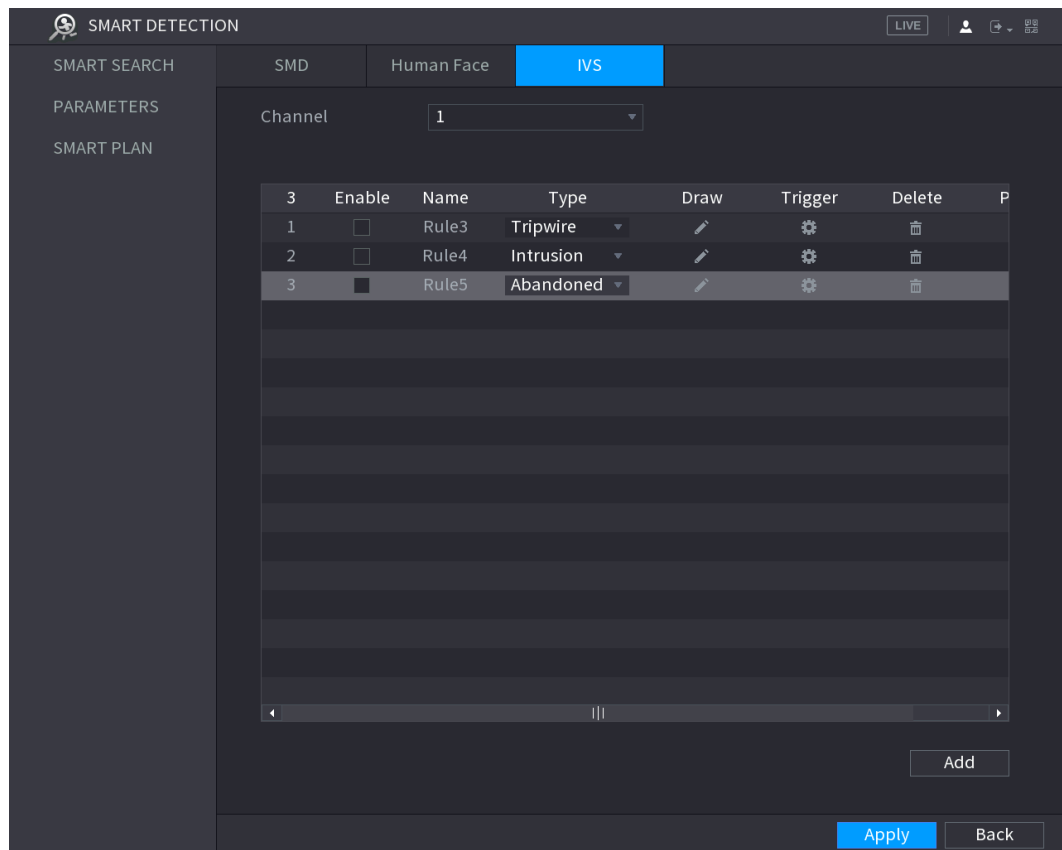

Figure 5-157
Step 1 On the rule line that you added, in the **Type** list, select **Abandoned**. See Figure 5-157.